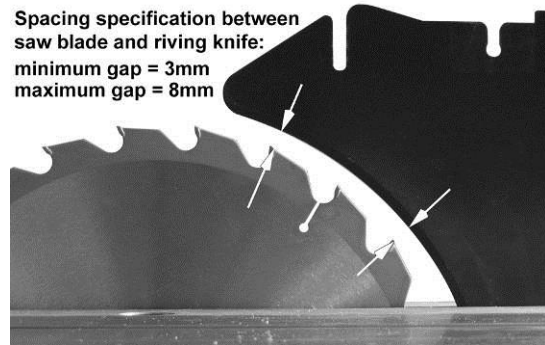

Figure 8-9
The gap between saw blade and riving knife must be between 3mm (0.12in.) and 8mm (0.32in.). See Figure 8-9.
9. Tighten screws (C).
10. Reinsert riving knife; engage lever (A) and check that saw blade/knife gap is between 3-8mm (Figure 8-9).